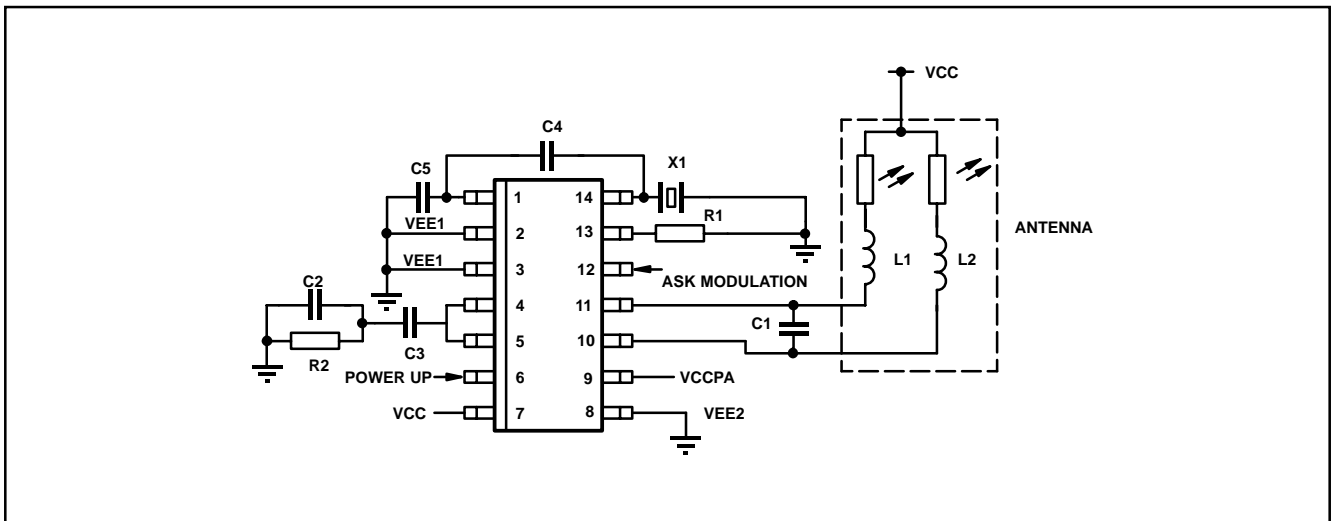

Figure 6 Application diagram
3. Regulatory issues demand that transmission does not take place until the PLL has acquired lock and the VCO is operating at its final output frequency. This requirement demands that pin TXEN is set high at least Txe ms prior to the transmission of any data. This value is dependent on the PLL loop bandwidth and hence on the value of the external loop filter component values. The specification value above is for the loop filter components shown in the applications diagram (Figure. 6)
A single transistor Colpits crystal oscillator provides a reference clock for the PLL. The oscillator is configured for parallel resonant operation in the fundamental mode (typical operating frequency of 3–7MHz). The crystal is connected between pins XTAL2 and VEE1 with external components as shown in Figure 6.
The input signal at pin DATA produces amplitude shift key (ASK) modulation of the VCO output. This is achieved by on-off keying of the bias current in the output power amplifier stage. The output of the PA is a balanced output (pin OUT and OUTB) and is current source driven (open collector outputs). The outputs of which should be D.C. referenced to a positive supply voltage (anticipated to be Vcc in most applications). The current source outputs can drive a PCB antenna directly (Figure 6) or if a higher output power is required on limited supply headroom via a simple impedance transforming network. A balanced output stage is used as it automatically suppresses the even order harmonics of the fundamental. In order to obtain the benefits of this output stage it is essential to use a balanced antenna.